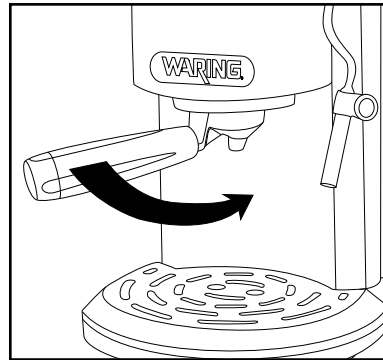

fig. 2
3. Insert the ground espresso holder into place by fitting it into position, then securing it from left to right onto the main housing (see figure 2).
4. Place one or two cups underneath the espresso spout and pull the control lever (C) forward so that it is lined up to the espresso cup symbol. To stop dispensing, raise the control lever back to the vertical standby position as indicated by the dot.